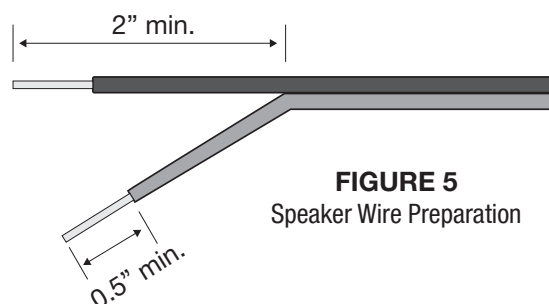

FIGURE 5
2. Strip one half inch of insulation from the end of each conductor, as show in **Figure 5**, for both connection cables.
2. Strip one half inch of insulation from the end of each conductor as show in **Figure 5** for both connection cables.